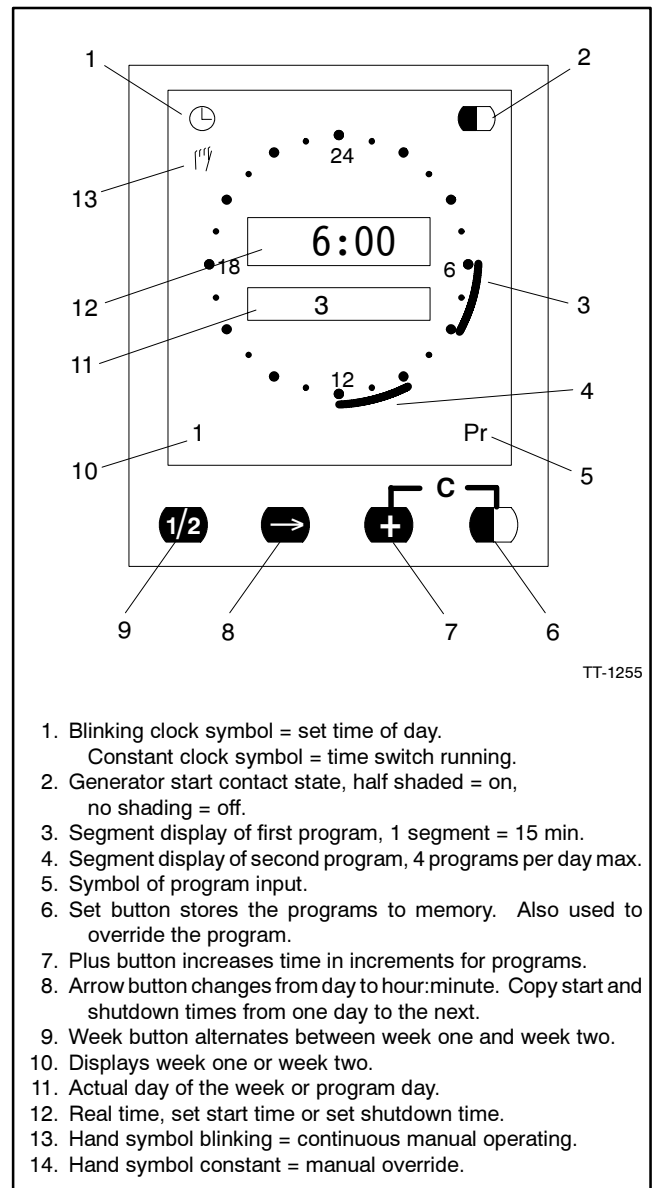

Figure 3-2 Exercise Timer
The plant exerciser has a liquid crystal display (LCD) panel that shows various exerciser information and four pushbuttons to enter information. See Figure 3-2. The following sections detail how to set the exerciser.
2. Simultaneously press and hold the ARROW (→), PLUS (+), and SET (■) buttons for 10 seconds. See Figure 3-2.